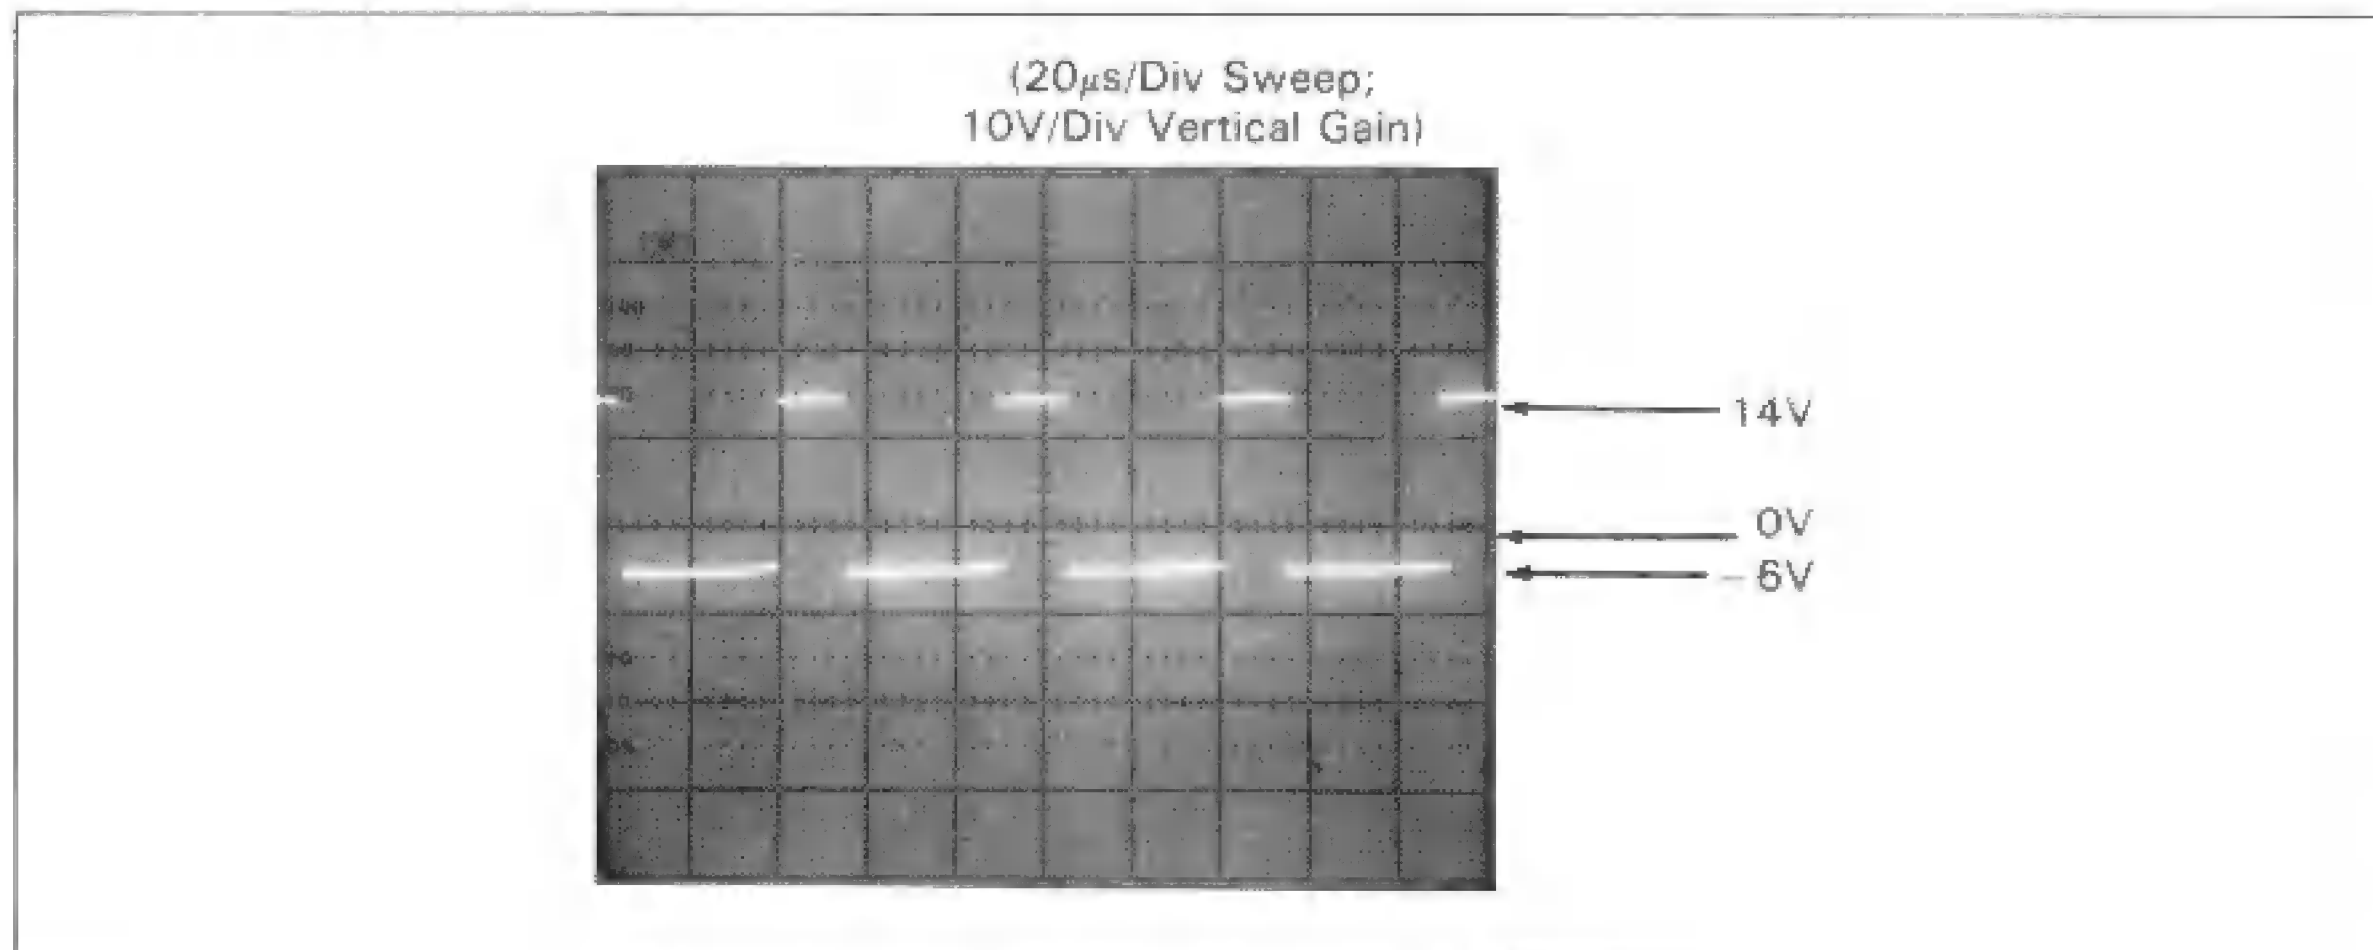

Figure 1-8-F-1. CR712 Anode Waveform
d. Using an oscilloscope set to a sweep time of  $20\ \mu\text{s}/\text{div}$  and a vertical gain of  $10\text{V}/\text{div}$ , check the anode of CR712 for the waveform shown in Figure 1-8-F-1. If it is incorrect, first make sure CR712 is OK. If CR712 is good, replace transformer T701.